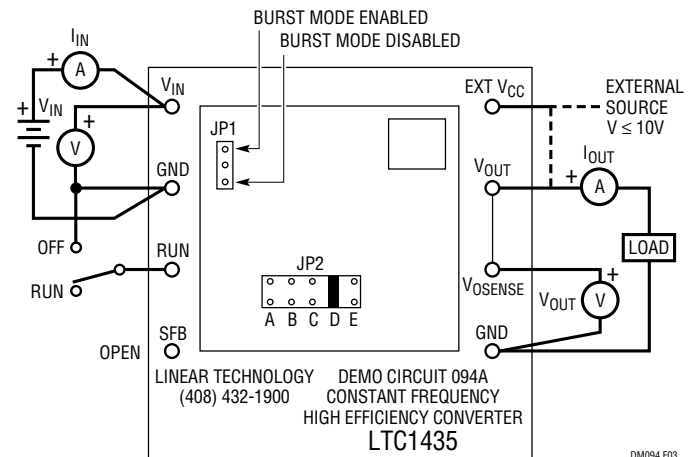

Figure 3. Proper Measurement Setup
1. Refer to Figure 3 for proper arrangement of monitoring equipment for correct measurement equipment setup.
terminal. The load should be placed across  $V_{OUT}$  (E6) to GND (E8). Measurements *should not* be taken at the end of test leads at the load. Refer to Figure 3 for the proper monitoring equipment configuration.